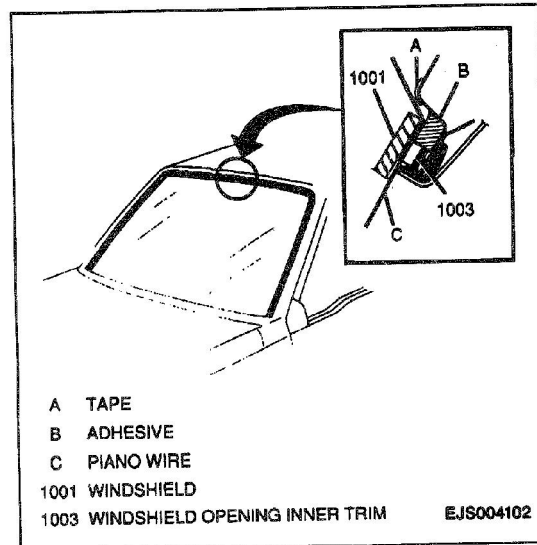

Figure 5—Piano Wire Placement
11. Cut adhesive all around windshield with piano wire (two technicians required, Figures 5 and 6).